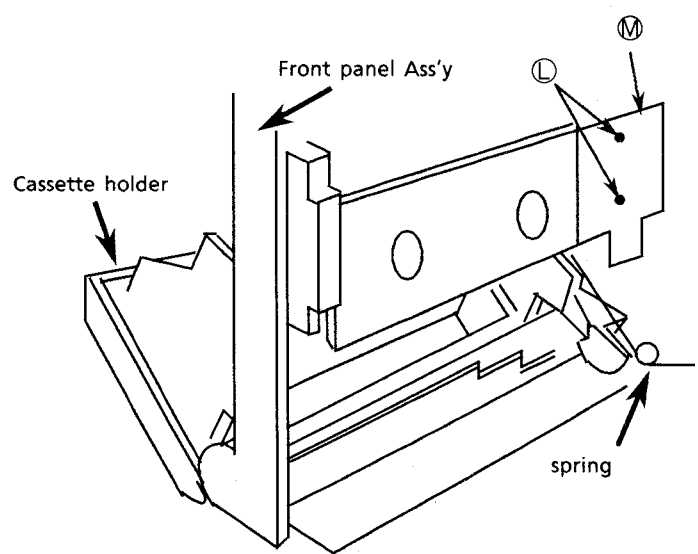

Fig 7
2. Remove the 2 screws ④.
3. Remove the ⑤.
4. Remove the spring hooked on the cassette holder (Fig 7).